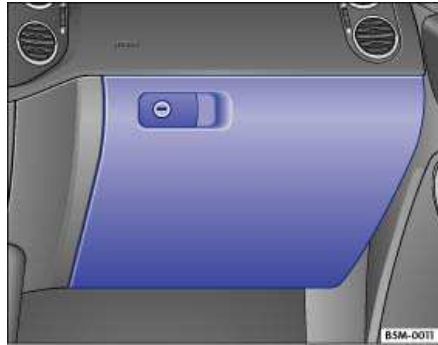

Fig. 126 Glove compartment.
- To *open*, pull the handle ⇒ fig. 126.